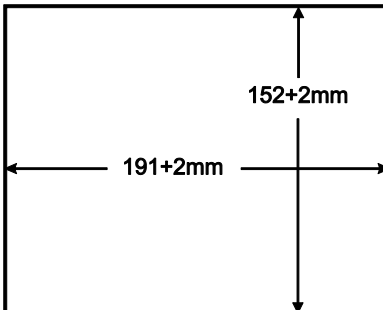

Figure 9: Cutout Dimensions
3. Following the **inside** edge of the template, cut a hole in the table surface with a sabre or keyhole saw according to the dimensions shown in Figure 9 (not to scale).